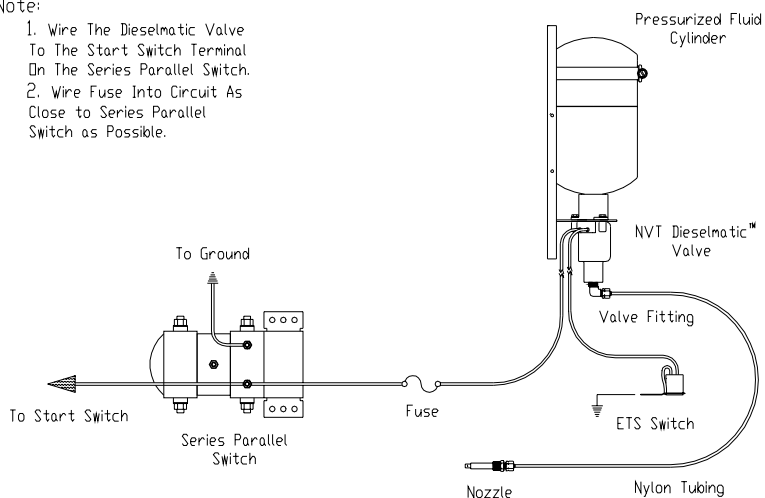

FIGURE 9
1. The valve assembly should be checked for proper operation before the ETS Switch is wired into the circuit. To do this, disconnect the battery and complete the wiring circuit as shown in Figure 8 (if series parallel wiring is required, see Figure 9). ***However, connect the colored valve lead directly to a good ground.*** Reconnect the battery.
3. After this check is made and proper valve operation is verified, disconnect the battery and complete the wiring circuit for the ETS Switch as shown in Figure 8 (if series parallel was required Figure 9). Be sure all wires are routed away from heat, moving parts, sharp edges, etc. If possible, route wiring with existing harnesses. Reconnect the battery.